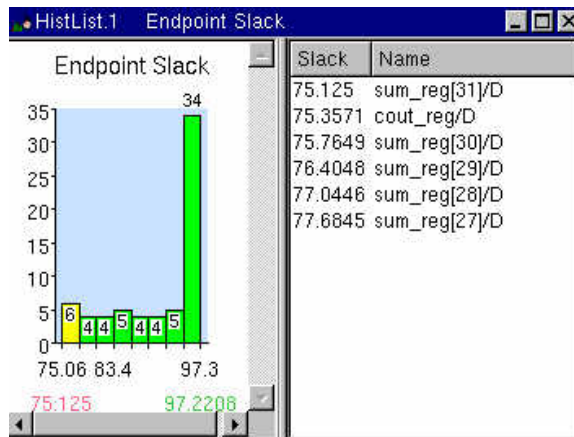

Figure 6-16 Illustration of slack histogram.
3. Click on the left most one on the endpoint slack window. The 6 endpoints with their respective slacks appear on the right of the window, shown in figure 6-16.